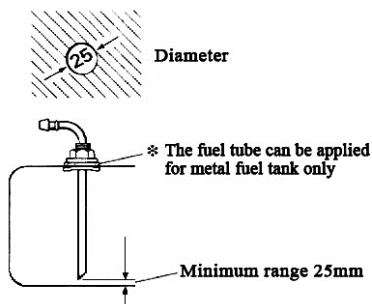

Fig. 18
4.4.6.1 When fuel is sucked from the vehicle fuel tank or from an independent fuel tank, a sucking pipe shall be used. Attention shall be paid to that the openings on the fuel tank (or tank cover) for installation shall be size $\phi 25 \pm 0.2$, with trimmed brim and with good evenness around the opening. Good sealing is necessary for the base of the fuel sucking pipe. The bottom end of the fuel sucking pipe shall be 30mm-40mm from the bottom of fuel tank to suck enough fuel and at the same time to avoid sucking in impurities sediment on the bottom of fuel tank. (Fig. 18)